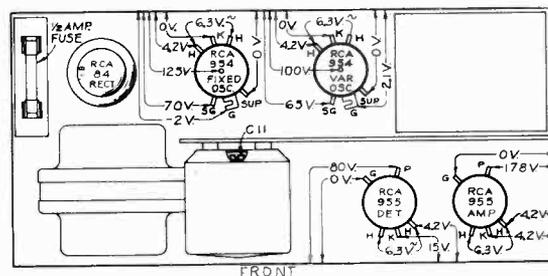
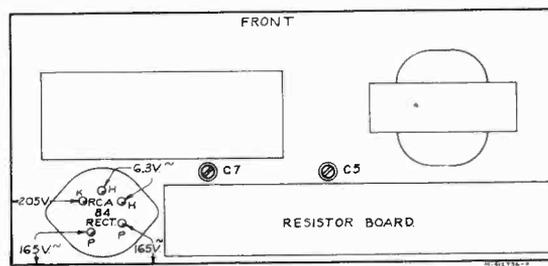

Figure 9—Radiotron Socket Voltages (top)
Figure 10—Radiotron Socket Voltages (bottom)
Place the instrument in operation with both the power and indicator switches to their "On" positions, the output control to its maximum (clockwise) position, and the main control to its 15,000-cycle position. Tune in a radio receiver accurately to 700 kc—either to a broadcast station or to an RCA TMV-133-A Crystal Calibrator. The crystal calibrator should be connected for d-c plate operation, using 22½ volts or more with its output switch to its "Lo" position. This gives the seventh harmonic for the 700-kc signal. Connect a lead from any one of the output terminals of the Beat Frequency Oscillator to the antenna terminal on the receiver, leaving the receiver antenna connected. These operations will feed two signals into the receiver: (1) The broadcast station carrier or the Crystal Calibrator frequency, and (2) the fixed oscillator frequency from the Beat Frequency Oscillator. The second harmonic of the fixed oscillator will be used for indication since its fundamental is 350 kc. Adjust trimmer C-7 of the fixed oscillator (see figure 10 for location) until zero beat is heard in the receiver loudspeaker indicating that the fixed oscillator is correctly tuned to 350 kc. Disconnect the lead to the receiver antenna connection.
After proper alignment of the fixed oscillator, as explained above, set the main frequency control to its 30-cycle position. Set the "Cal. Adj." pointer to its vertical position and place "indicator" switch to "Cal.", leaving the output control set to maximum. Adjust trimmer C-5 of the variable oscillator (see figure 10 for location) until zero beat occurs between the two oscillators. This point will be indicated when the neon lamp goes out entirely. A pair of headphones may be connected across the 5,000-ohm output terminals to obtain the same indication of zero beat. The oscillators are now properly aligned but the "Cal. Adj." setting is not correct for operation and must be adjusted as described under "Operation."
Connect a 0—25-volt a-c meter, equivalent load 5,000 ohms, across the two output terminals marked "5000." If a 1,000-ohm-per-volt meter is used, connect a carbon resistor of approximately 6,000 ohms in parallel with the meter to obtain the equivalent 5,000-ohm load. Properly calibrate the instrument as described under "Operation." Place indicator switch to "On" and advance the output control to maximum. Set the main frequency control to its 1,000-cycle position. Adjust trimmer C-11 on the i-f transformer (see figure 9 for location) for 18 volts output. This is accomplished by screwing the trimmer all the way in and then unscrewing it to obtain the correct voltage. This places the transformer tuning on the lower side of resonance.
Operating conditions of the basic circuits of this instrument may be determined by measuring the voltages applied to the tube elements. Figure 9 shows the voltage values from the socket contacts to ground and also those appearing across the heater contacts H-H on the four acorn-type Radiotrons on the top side of the chassis. Figure 10 shows the rectifier Radiotron voltages on the bottom side of the chassis. Each value as specified should hold within $\pm 20\%$ when the instrument is normally operative with all tubes intact and rated voltage applied. Variations in excess of this limit will usually be indicative of trouble.